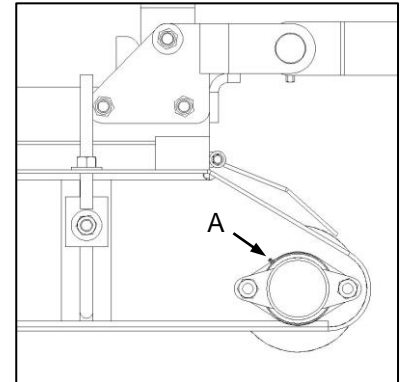

Fig. 7
- ✔ Apply grease to the bearing units (Fig. 7-A).
- ✔ Ghries die koeëlaareenhede (Fig. 7-A).